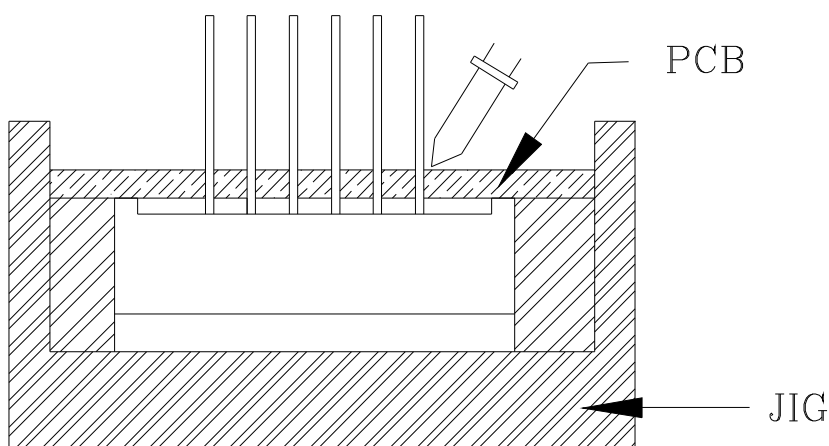

Fig.1
- 1) When soldering the PIN of Display in a jig that the package is fixed with a panel (See FIG.1), be careful not to stress the PIN with iron tip. When soldering Display in a condition that the package is fixed with a panel, be careful not to cling and stress the surface of Display on the panel to avoid damaging the Display.